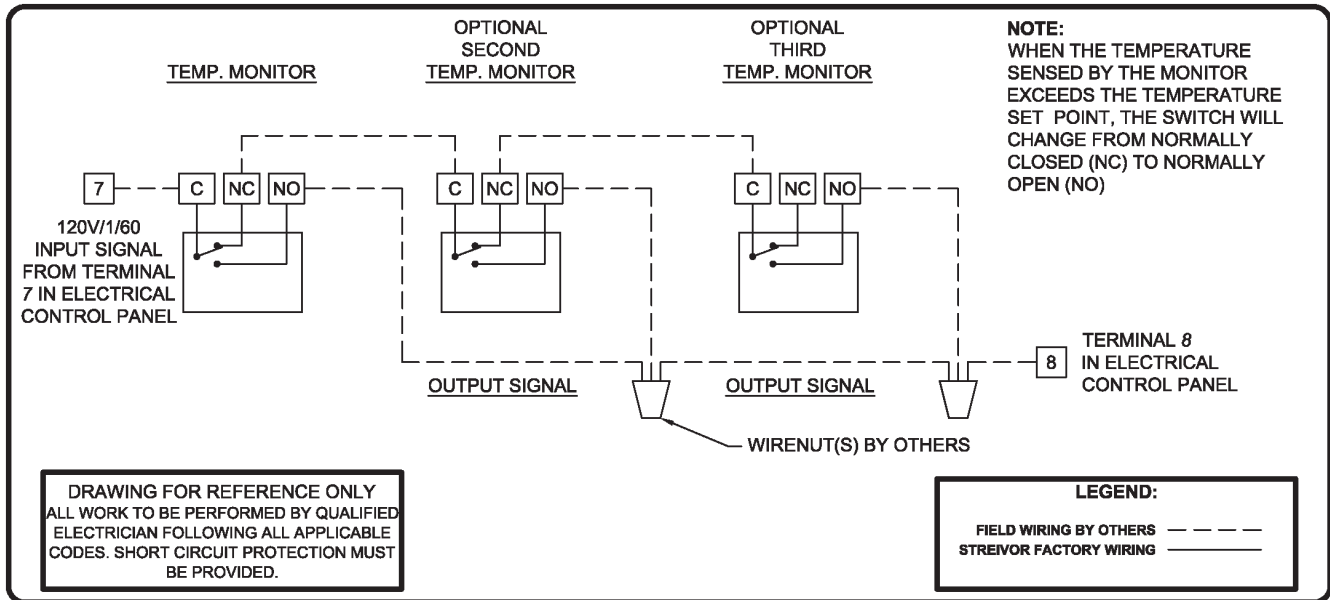

Figure 10B: Temperature Monitor Wiring for Multiple Hoods*
- For systems with multiple hoods, perform step b. and connect the temperature monitor circuits from each additional hood to allow any temperature monitor on any hood to automatically activate the start signal for the fan(s) (Figure 10B).